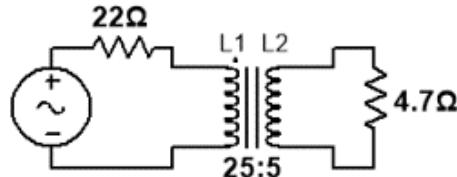

FIGURE 12. A step-down transformer with load.
- (f) For your measured secondary inductance L_2 and a signal frequency of 100 kHz , what condition must the load impedance Z_{load} satisfy so that the transformer operates in the ideal regime? (Z_{load} is the impedance of any load attached across the secondary, for instance, the 4.7Ω resistor in Fig. 12.)
- (g) Use a 4.7Ω resistor to load the 5-turn transformer output winding as in Fig. 12. **Remeasure** the voltage step-down ratio. Is it different than in the unloaded case?
- (i) Qualitatively **measure** the phase relationship between the voltage across and the current through the 25-turn primary. **Remove** the 4.7Ω resistor, leaving the 5-turn output coil leads floating, and **remeasure** the phase. Finally, replace the 4.7Ω resistor in Fig. 12 with a $0.33\mu\text{F}$ capacitor, and **remeasure** the phase. Qualitatively explain your results.
- (j) **Restore** the 4.7Ω resistor in Fig. 12. **Measure** the voltage across the 4.7Ω load resistor and **calculate** the current through the 5-turn winding. What is the **ratio** of the output current through the 5-turn secondary measured here to the input current across the 25-turn primary that you measured in part (h)? Does this current ratio agree with the predicted value?